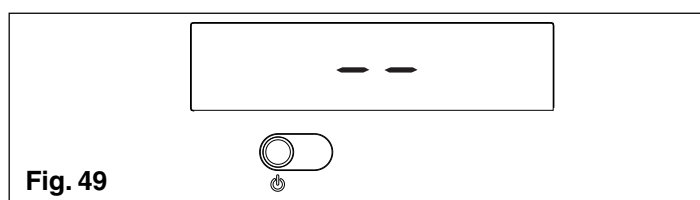

Fig. 49
- ⚠ The boiler turns on in the status it was in before it was switched off: if the boiler was in the winter mode when it was switched off, it will turn on again in the winter mode. If it was in the OFF mode, the display will show two segments in the central area (fig. 49). Press the button to enable operation.
For brief absences press the power button to switch off the boiler. The display will show two segments in the central area (fig. 49). When the boiler remains powered with the gas tap open, it is protected by the following systems:
For prolonged absences press the power button to switch off the boiler (fig. 49). The display will show two segments in the central area. Turn the main switch to “off”.